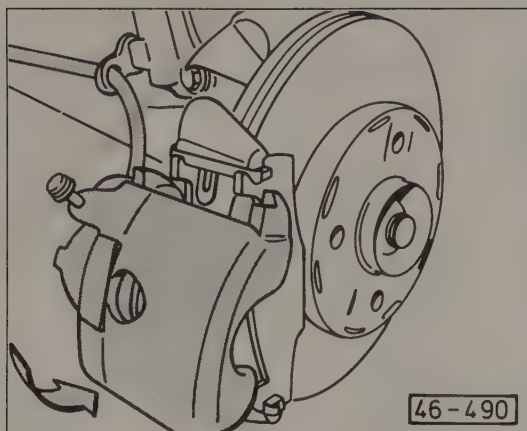

Fig. 5-4. Brake caliper being pivoted into position on pad carrier over brake pads. Engage top part first and follow with bottom (arrow).
3. Engage the caliper with the upper part of the pad carrier, and pivot the bottom of the caliper into position over the pads, as shown in Fig. 5-4. Be careful not to damage the caliper piston dust seal.